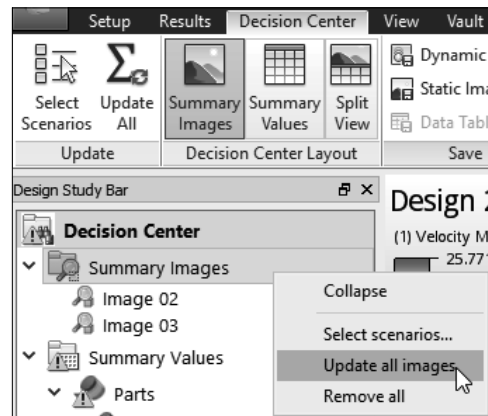
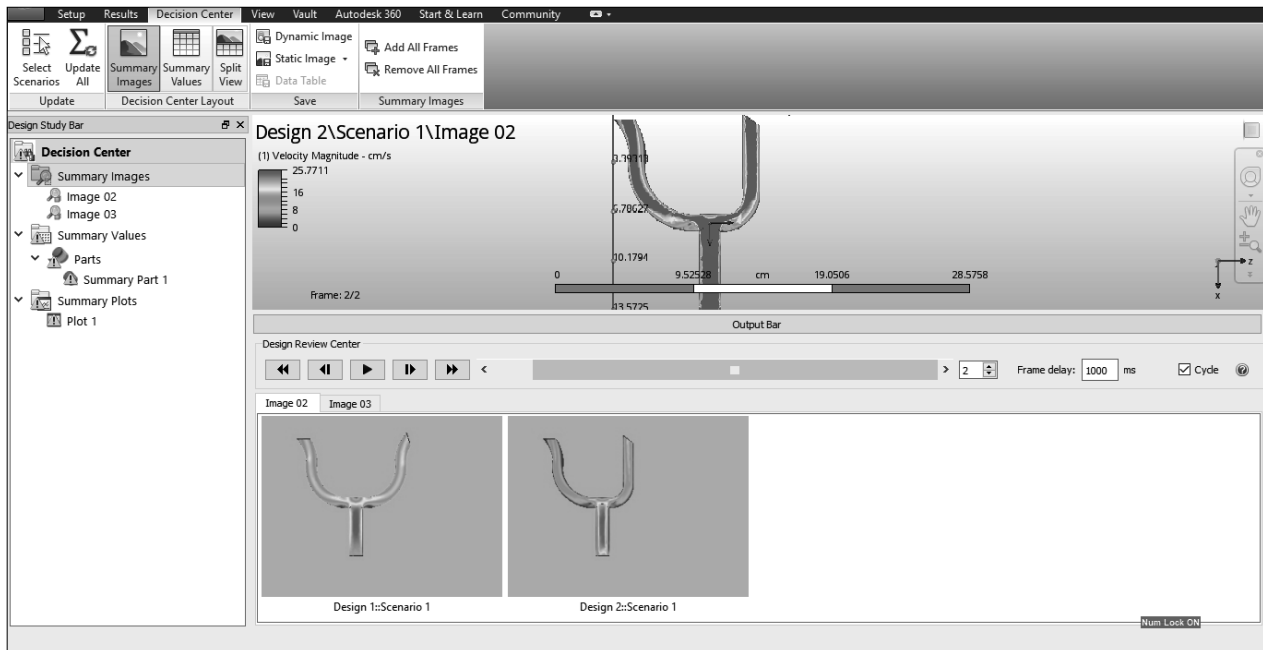

Figure-97. Updating images
Figure-98. Comparing result
- To update images, right-click on the **Summary Images** option from the **Design Study Bar** of when **Decision Center** tab is selected and select the **Update all images** option; refer to Figure-97. The images will be updated and displayed in the **Output Bar**; refer to Figure-98.